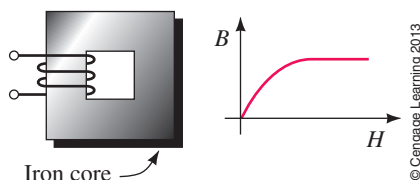

FIGURE 13-11 This coil does not have a fixed inductance because its flux is not proportional to its current.
2. However, if a coil is wound on a magnetic core, the core's permeability μ may change with flux density. Since flux density depends on current, L becomes a function of current. For example, the inductor of Figure 13-11 has a nonlinear inductance due to core saturation. All inductors encountered in this book are assumed to be linear, that is, of constant value.